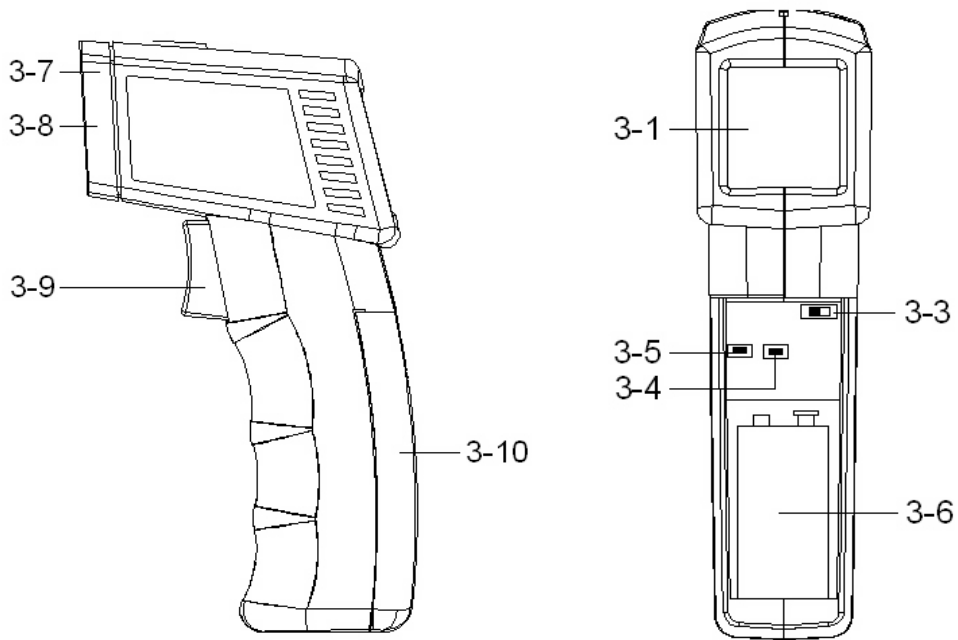

Fig. 1
- 1) One hand hold the " Handle " (3-10, Fig. 1), use finger to press the " Operation Switch " (3-9, Fig. 1) continuously.
- 2) Point the " IR Sensing Head " (3-8, Fig. 1) to the measuring object until meter show the stable temperature values (approx. 1 to 2 seconds), release the " Operation Switch ". The Display will hold the measuring value for 5 seconds, then power off automatically.
- a. When press the " Operation Switch " (3-9, Fig. 1) to make the temperature measurement, at the same time the meter's head will generate the red " Laser Target Light " (3-7, Fig. 1) to guide the target.
- a. Use finger to press the " Operation Switch " (3-9, Fig. 1) continuously.
- b. Use " Down ▼ Button " (3-4, Fig. 1) and the Up ▲ Button " (3-5, Fig. 1) to adjust the desired emissivity value.
- 2) Slide the Battery Cover (3-2, Fig. 1) away from the instrument and remove the battery.